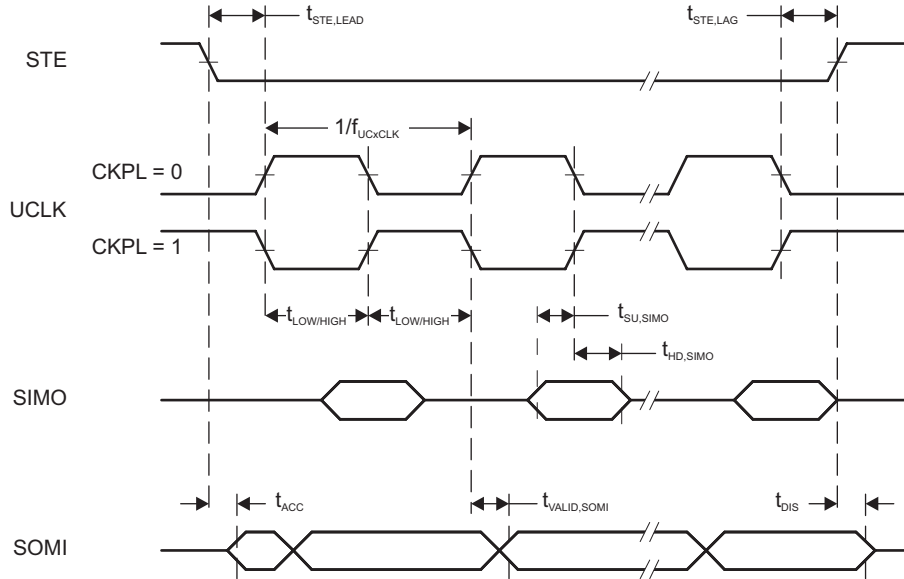
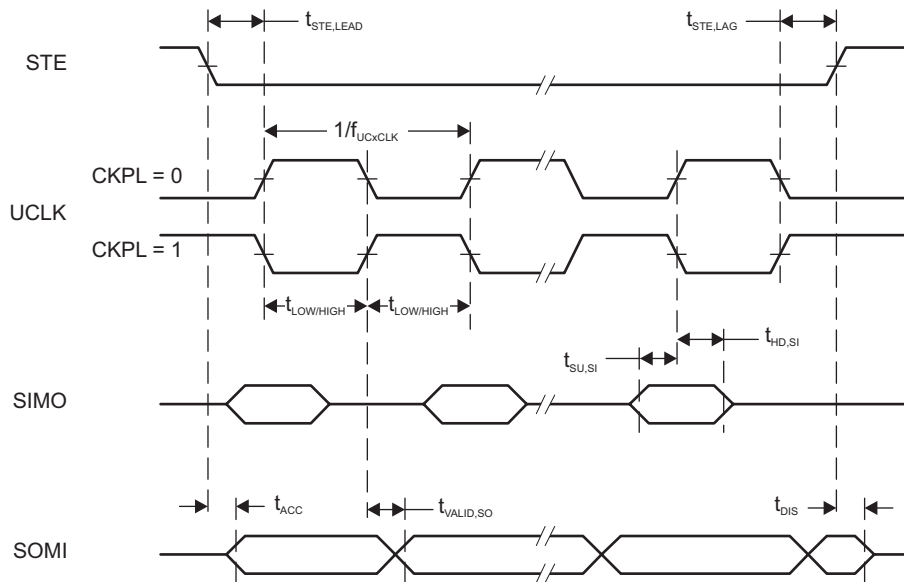

Figure 5-25. SPI Slave Mode, CKPH = 0
Figure 5-26. SPI Slave Mode, CKPH = 1
over recommended ranges of supply voltage and operating free-air temperature (unless otherwise noted)⁽¹⁾ (see Figure 5-25 and Figure 5-26)
- (2) Specifies the time to drive the next valid data to the SOMI output after the output changing UCLK clock edge. See the timing diagrams in Figure 5-25 and Figure 5-26.
- (3) Specifies how long data on the SOMI output is valid after the output changing UCLK clock edge. See the timing diagrams in Figure 5-25 and Figure 5-26.